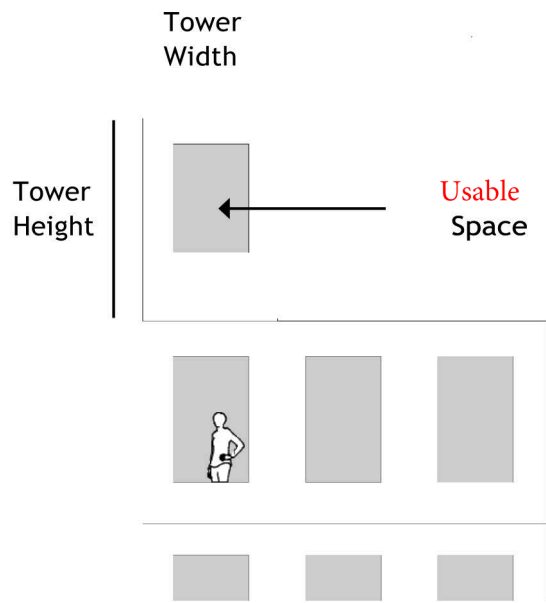

Figure 5.5-6. Tower
- (1) Tower. A tower is a rectilinear or cylindrical, vertical building element. Refer to Figure 5.5-6, Tower.